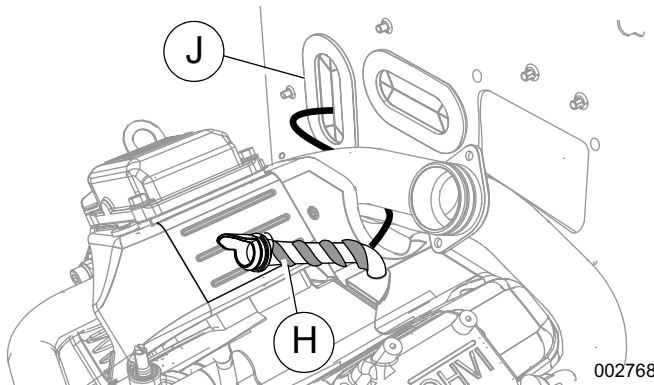

Figure 10. Wrapping the Breather Hose (11–22 kW)
- See Figure 10. Wrap the breather heater (H) around the breather hose, evenly spaced as shown, with the lead wires at the bottom. Once installed, wrap the breather heater and hose with silicone tape (provided) to secure heater.